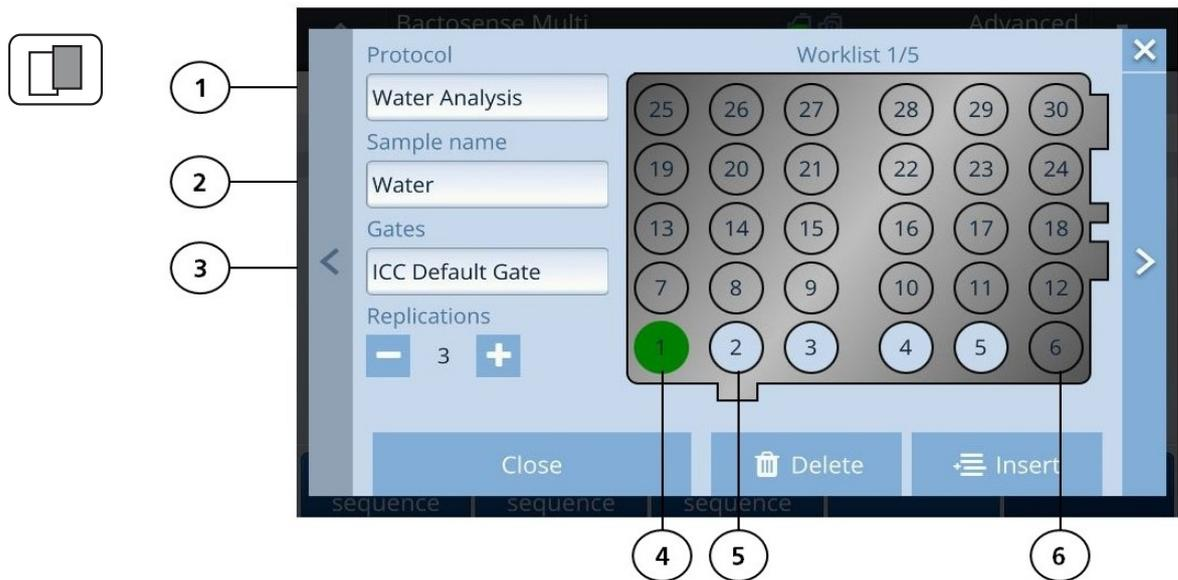

Figure 6-4 Vial tray as it is displayed in the software.
①	Home button
②	Top bar left: instrument configuration and state of the device.
③	Top bar right: user mode and time.
④	Logout button, used to lock the screen, choose a user, or power off the instrument.
⑤	Wizard header: Shows the current step of the process.
⑥	Batch name, tray cooling option activation and temperature setting [°C]
⑦	Batch listing. Fields for well number, sample name, protocol and gate can be modified. The sequence can be duplicated. Number of replications can be set. These buttons can be accessed: <div style="display: flex; justify-content: space-around; align-items: center;"> <div style="text-align: center;">  Tray view (Figure 6-4) </div> <div style="text-align: center;">  Add sample below line </div> <div style="text-align: center;">  Discard entry </div> </div>
⑧	Buttons on the Action Bar : Generate sequence, Load sequence, Save sequence, Scan barcode, Next.